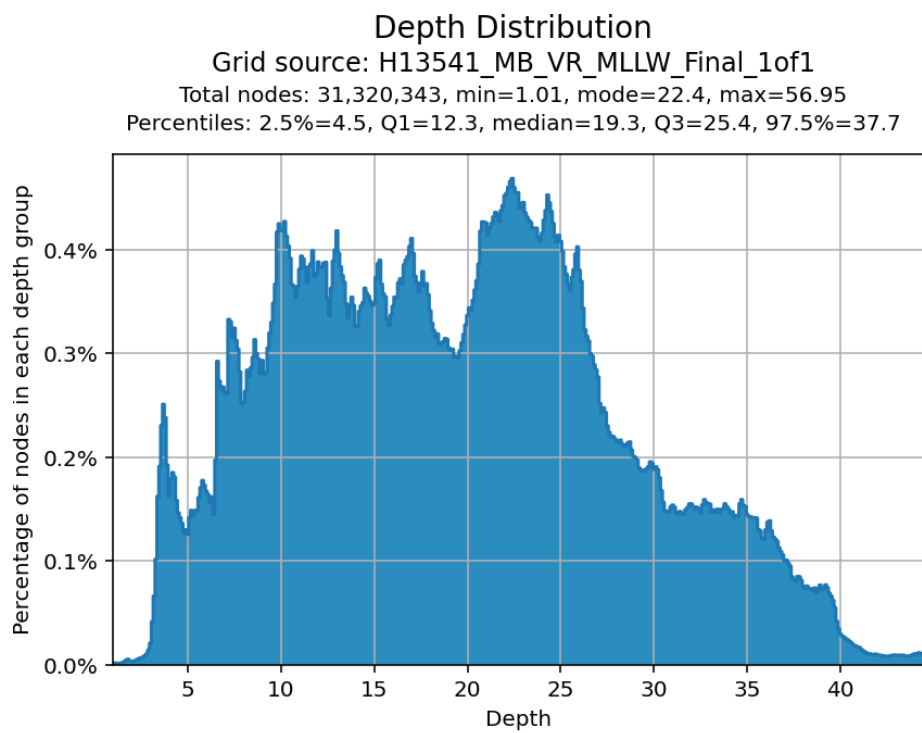

Fig. 2.27: A histogram of the percentage of total nodes at each depth represented in the surface.
- Depth Distribution (Fig. 2.27).